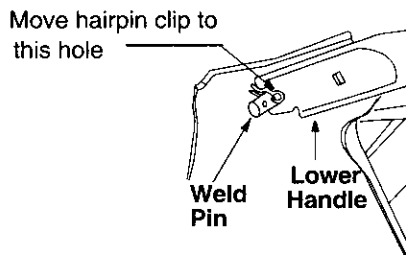

Figure 4
- Using a pair of pliers, insert the hairpin clip into the inner hole in the weld pin. Repeat on the other side. See Figure 4.